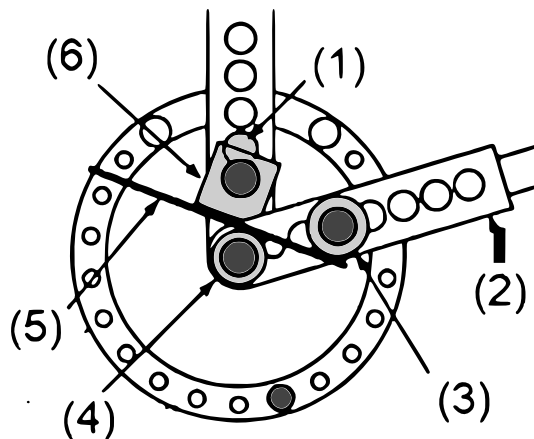

Figure 4: Assembly for simple radius bending
1. Choose the bending tool matching the radius of the work piece to be bent. Install it as centring tool to the hinge pin (9) fixing the bow-type lever (15) to the bending support (4) (see Fig. 4).
3. Choose a bending tool that fixes the work piece to the centring tool and prevents it from slipping. After that, mount it as stiffening form with the help of the short hinge pin (14). Make sure that the stiffening form is as near as possible to the work piece.
4. Place the work piece between the bending tools and stop block (10) (Fig. 4).